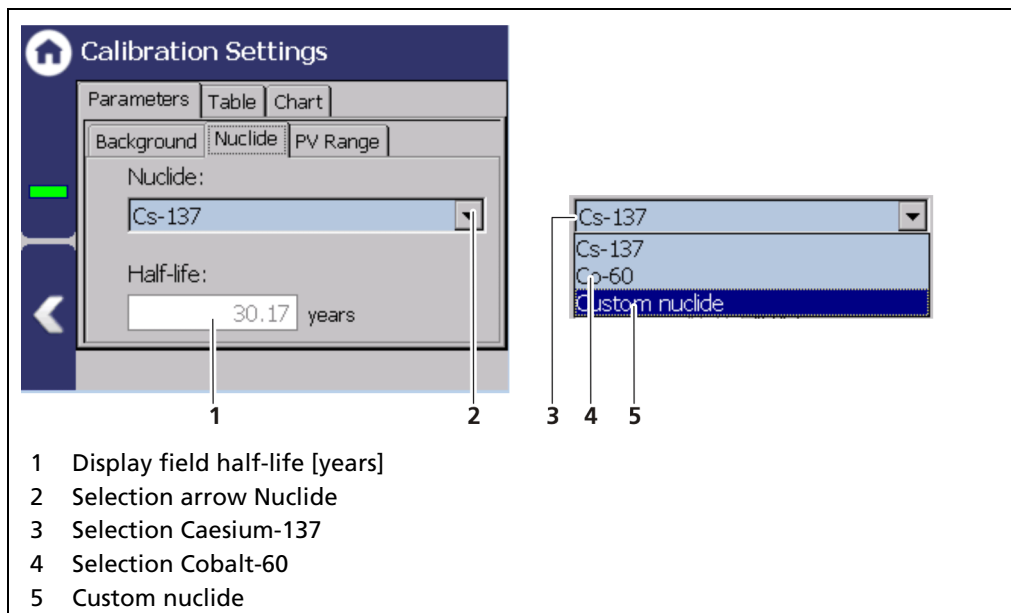
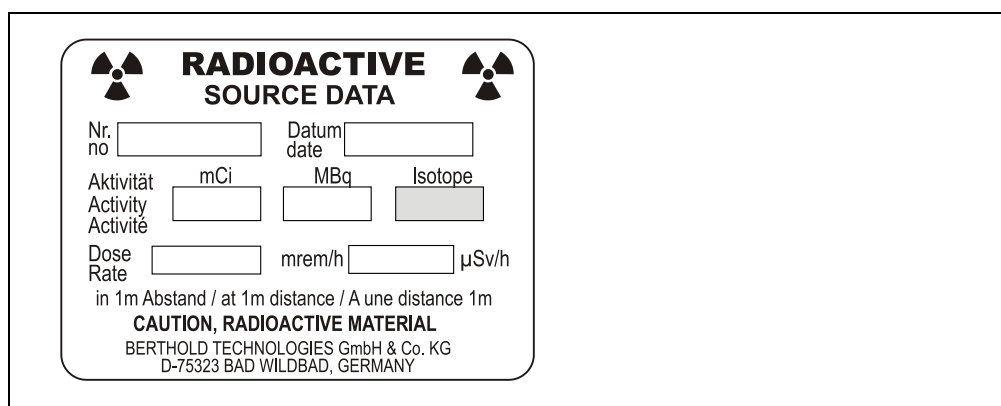

Fig. 77 Calibration Parameters: Nuclide
Fig. 78 Type plate source
The isotope used can be selected in the "Nuclide" tab. The half-life of the isotope is shown on the display field (Fig. 77, item 1).
1. Click on the selection arrow (Fig. 77, item 2).
2. Select the isotope used. Cs-137 (Fig. 77, item 3) or Co-60 (Fig. 77, item 4). The isotope of the source is on the type plate of the screen (Fig. 78).
3. When selecting "Custom nuclide" (Fig. 77, item 5), the half-life of the isotope can be entered.